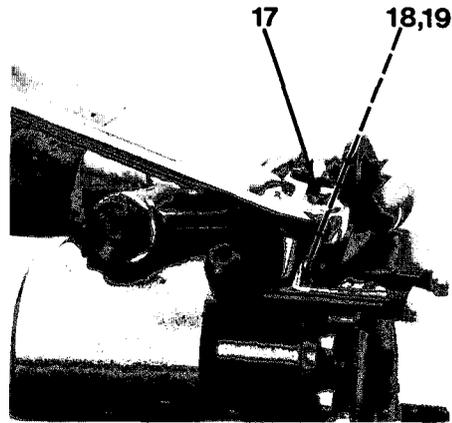

Figure 7-16
4. Remove solenoid with plunger (17), spring (18) and O-ring (19, Figure 7-16).